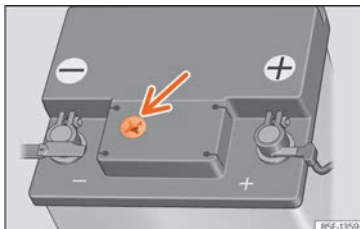

Fig. 189 Sight glass on the top of the 12 volt battery (schematic representation).
- Check the colour display in the sight glass on the top of the battery >>> **Fig. 189**.